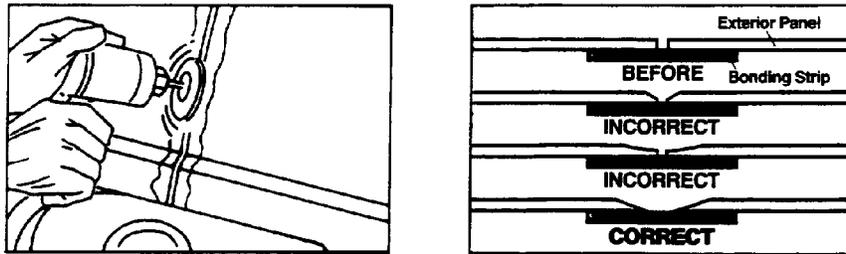

FIGURE 8—TAPERING BOND LINE AREAS
**IMPORTANT**—Remove all cliff edges in tapered areas (Figure 8). Featheredge the paint back 1/2 in from the recessed area using a grade 180 disc on a random orbital (R/O) sander and clean using compressed air and a clean rag. (Do not use lacquer thinner.) It is important to round all edges prior to applying filler material.